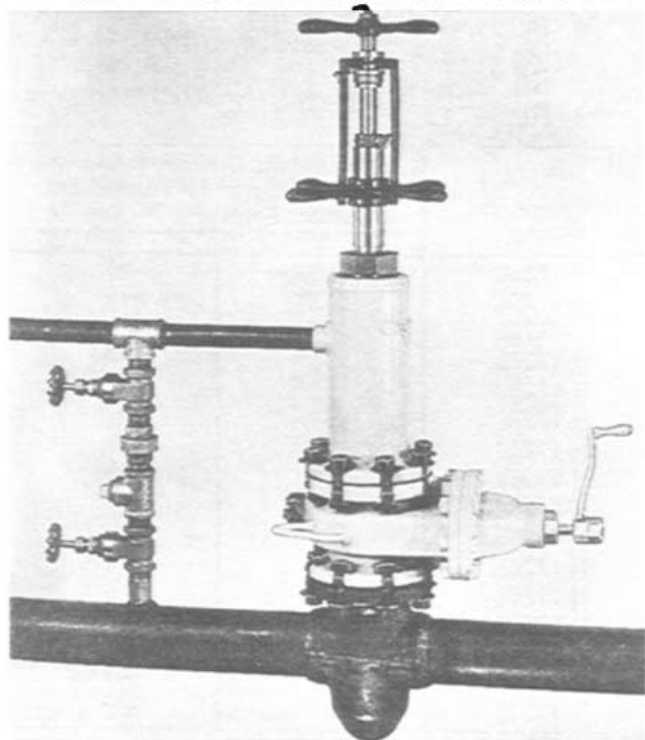

FIGURE 21
4. Hold inserting bar in this position by placing yoke of the machine in the collar on the inserting bar and securing with pin. **Figure 21**. CAUTION. DO NOT ROTATE INSERTING BAR.